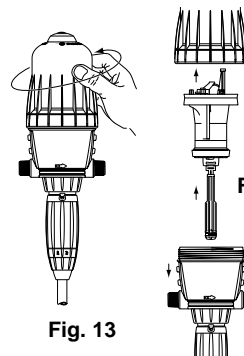

Fig. 13
- Unscrew and remove bell-housing by hand (**Fig. 13**).